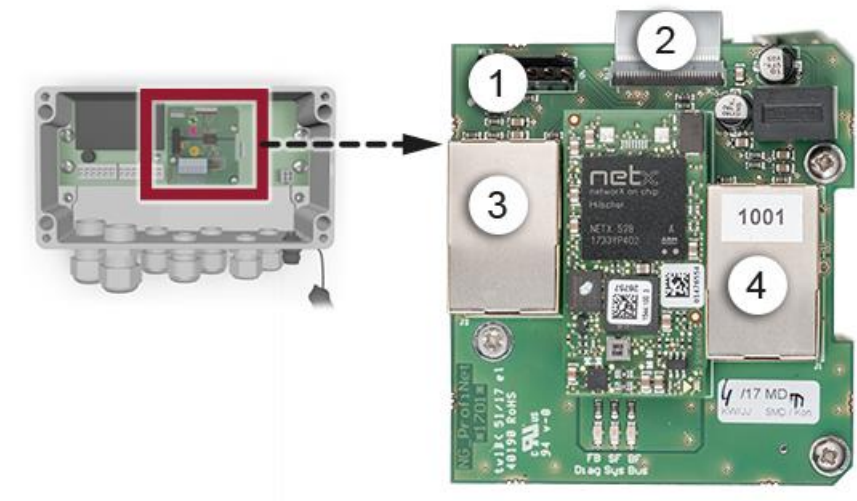

Figure 13: Overview of the Profinet IO module in the SIPORT 2
- If the photometer is used as a terminal device, DIL switch S2/1 must be switched ON on the connection module (Figure 13, pos. 3).